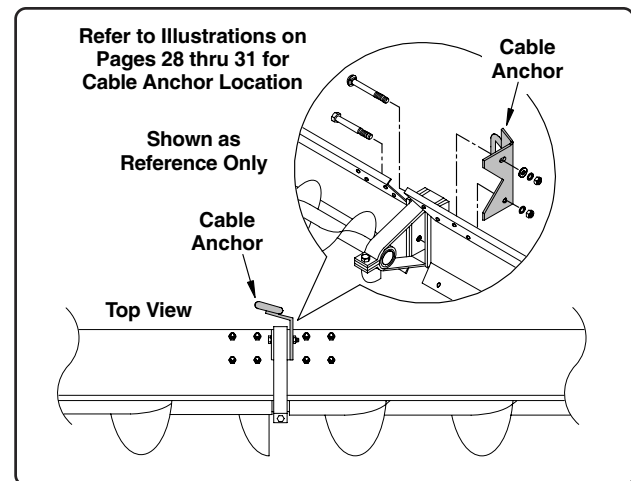

Fig. 13
4. Install a bearing stand onto the end of the flight and shield section. Position the fourth shield and the cable anchor bracket (See Fig 13) against the bearing stand and secure using two 3/8" x 3 1/2" bolts, flat washers, lock washers and non-lock nuts.